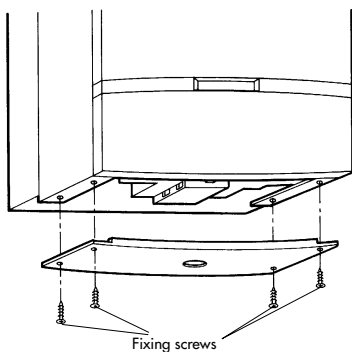

Fig. 16
- 5.2 Remove the boiler base plate, four screws (fig. 16). Remove the plugs fitted to the boiler water connections.